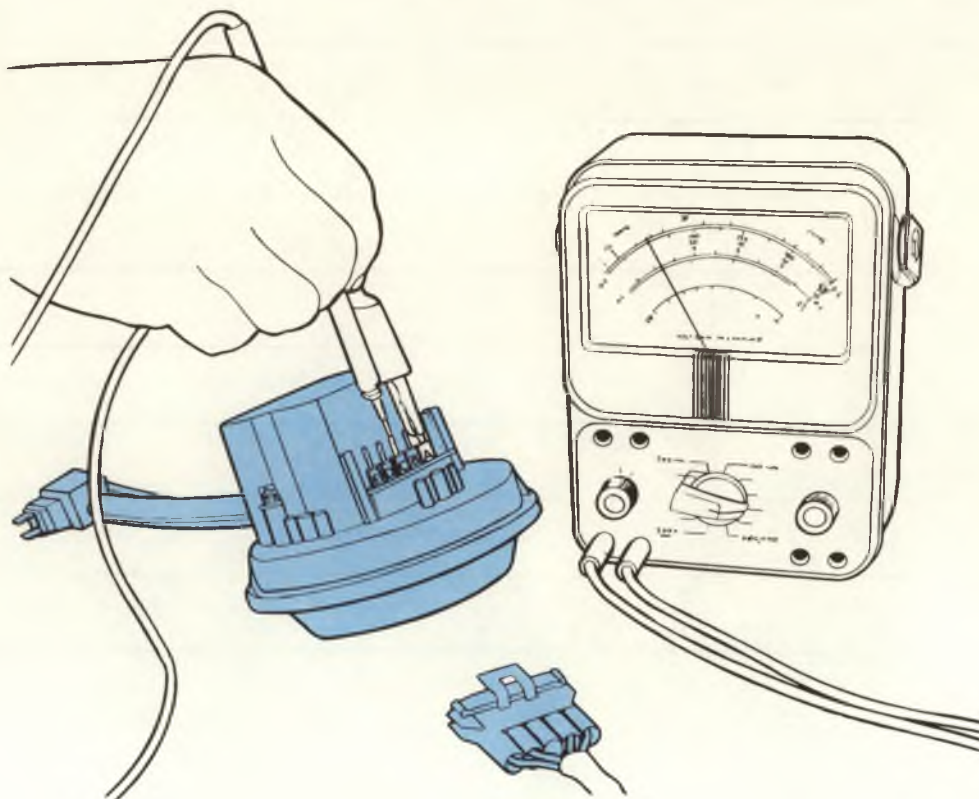

Figure 4-1, Servo Resistance Measurement.
- Servo resistance measurement (vent valve control or vacuum valve control) can be made at the servo as shown in figure 4-1.
- Step 5** Perform servo electrical tests described in figure 4-1.
Step 2 Check the servo as per procedures described in figure 4-1, electrical check, page 4-2 . . . step 9, electrical vacuum check, above . . . and Table 4-1, Vacuum Servo Test, page 4-3. Replace the servo if required.